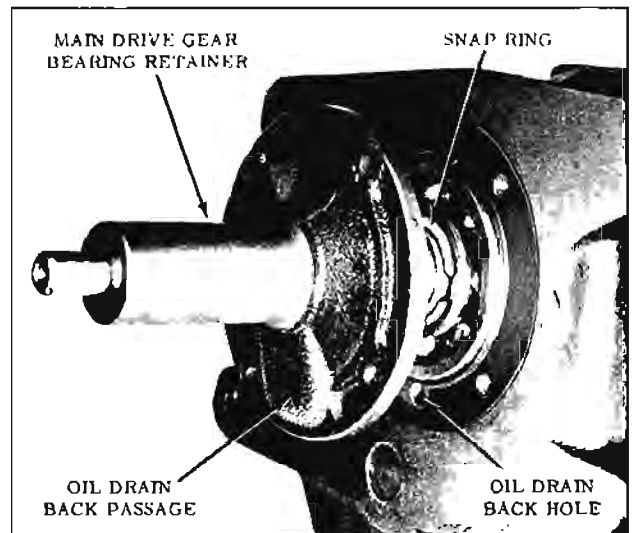

Fig. 11-230 Main Drive Gear Bearing Retainer Removal
10. Install main drive gear gasket and retainer with the oil return holes aligned; use sealer such as P.O.B. #3 Sealer on the four retaining bolts and torque 15-20 ft. lbs. (Fig. 11-230)